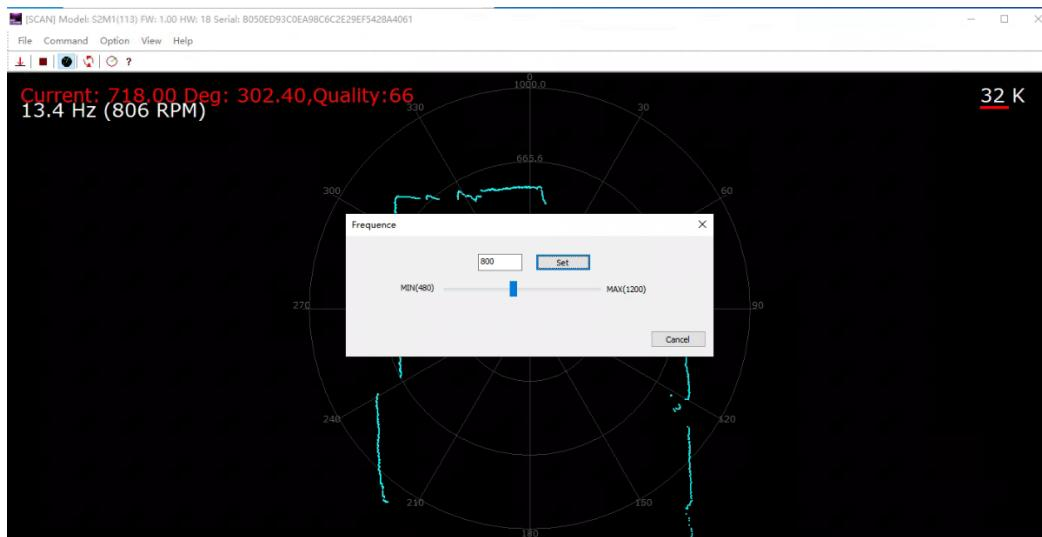

Figure 3-7 Lidar Speed Regulation
- 7) Click Command >IP Config to configure the IP address. As Figure 3-7 shows resetting the device after the configuration is complete. For SDK, see `setLidarIpConf` and `reset`.